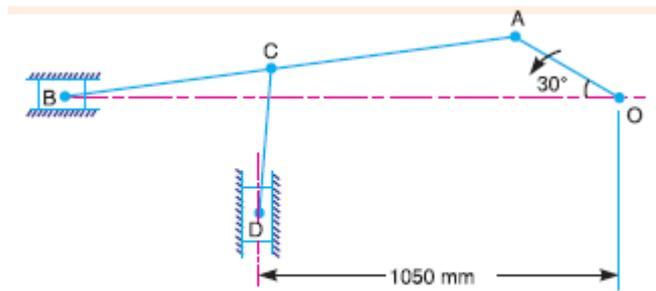

Figure 2.2
- (c) In the mechanism, as shown in Fig. 2.2, the crank OA rotates at 20 rpm anticlockwise and gives motion to the sliding blocks B and D. The dimensions of the various links are OA = 300 mm; AB = 1200 mm; BC = 450 mm and CD = 450 mm. For the given configuration, determine: (i) velocities of sliding at B and D, (ii) linear acceleration of D. 07